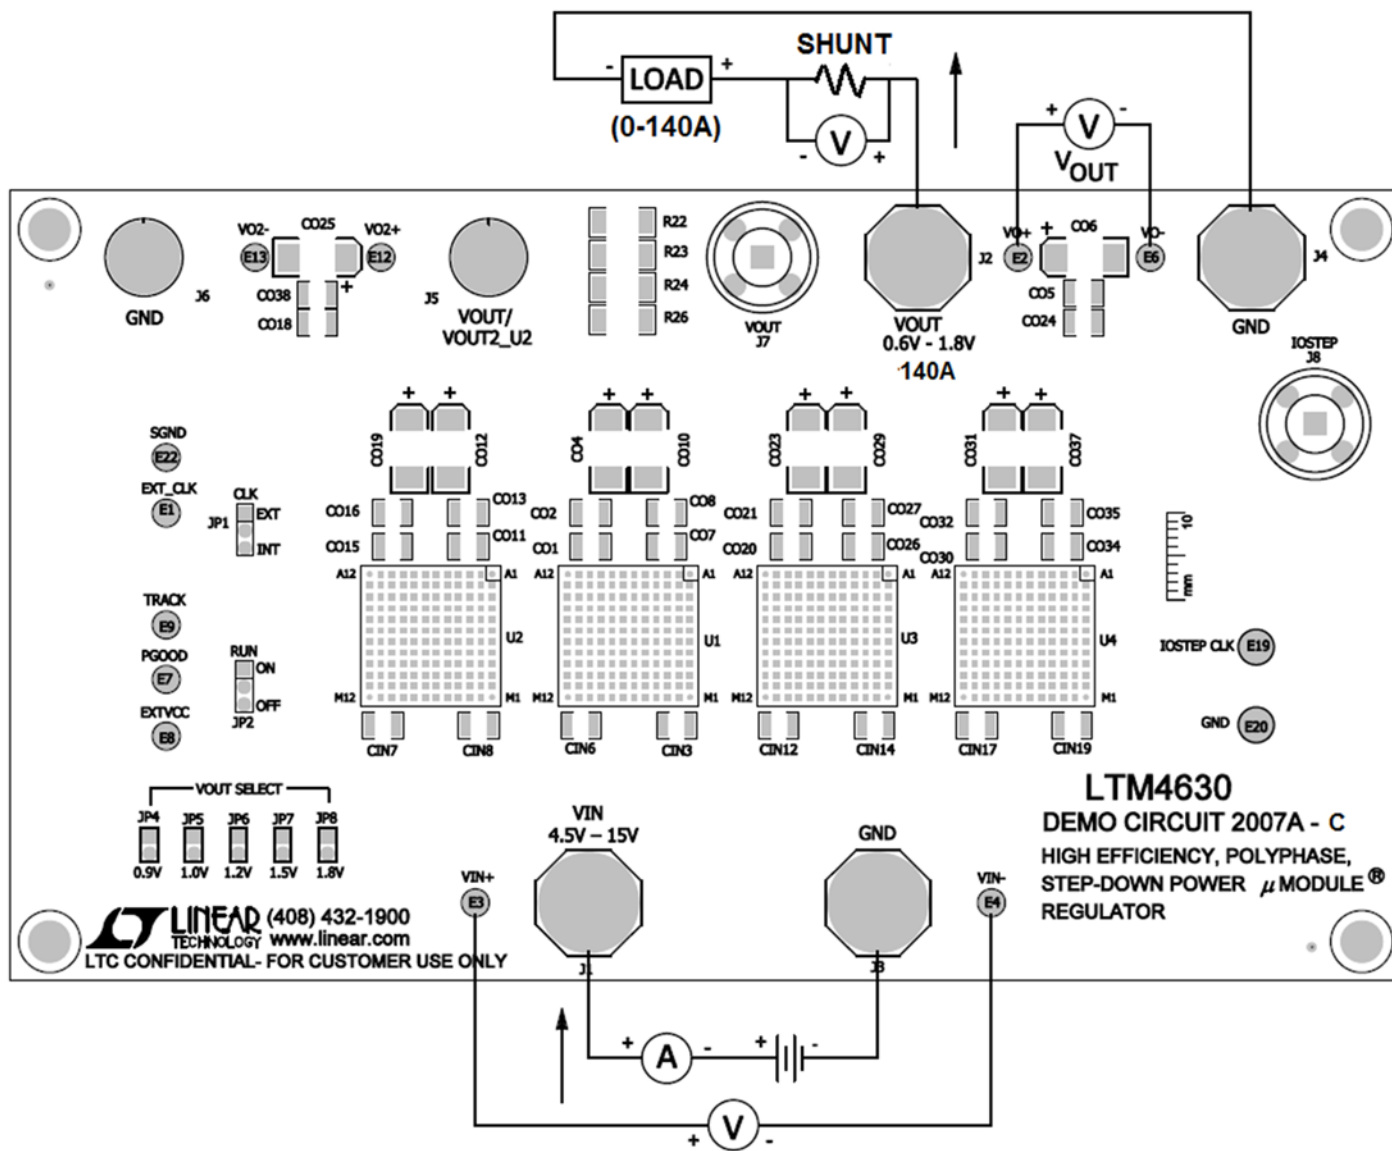

Figure 2. Test Setup of DC2007A-C
Demonstration circuit DC2007A-C is easy to set up to evaluate the performance of PolyPhase operation of the LTM4630EV. Due to the high input/output current, user should select the proper input supply/load/cable which can sustain the full load operation. It's recommended to pull load current from J2 and J4. The load current pulled from J5 and J6 shouldn't exceed 18A. Please refer to Figure 2 for proper measurement setup and follow the procedure below:
- With power off, connect the input power supply, load and meters as shown in Figure 2. Preset the load to 0A and V_{IN} supply to 12V.